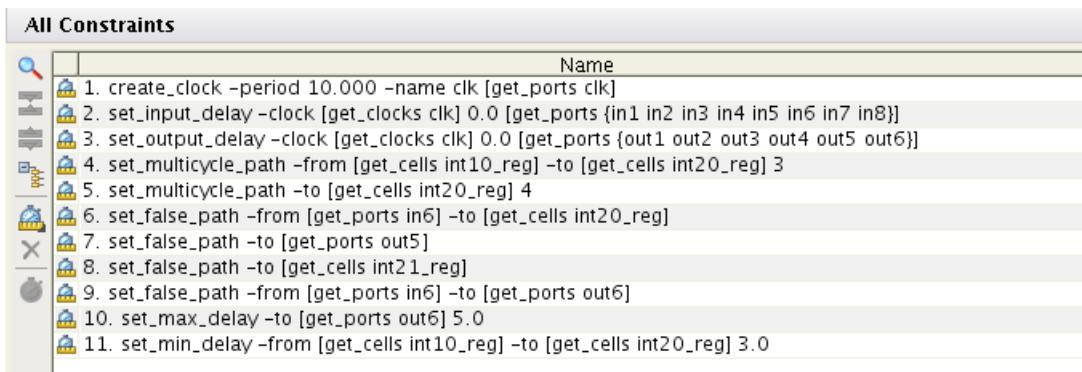

Figure 2-28: Constraints Window Displaying Timing Constraint Changes
- The Position column indicates the constraint position number. This is the same position number reported by the Timing Constraint Window, shown in Figure 2-28.